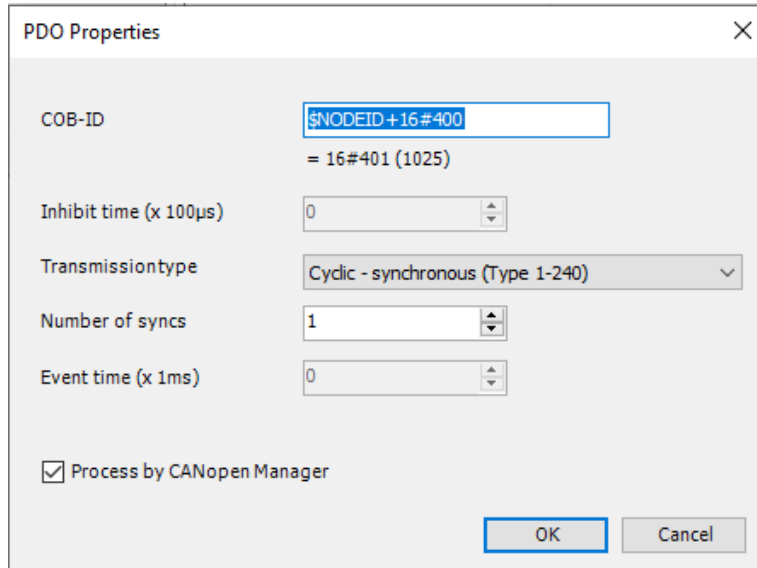

Figure 6-60 CANopen integration CODESYS | Set receive PDO transmission type
- 3) Set the receive PDO transmission type to «Cyclic - synchronous (Type 1-240)» (see → Figure 6-60).